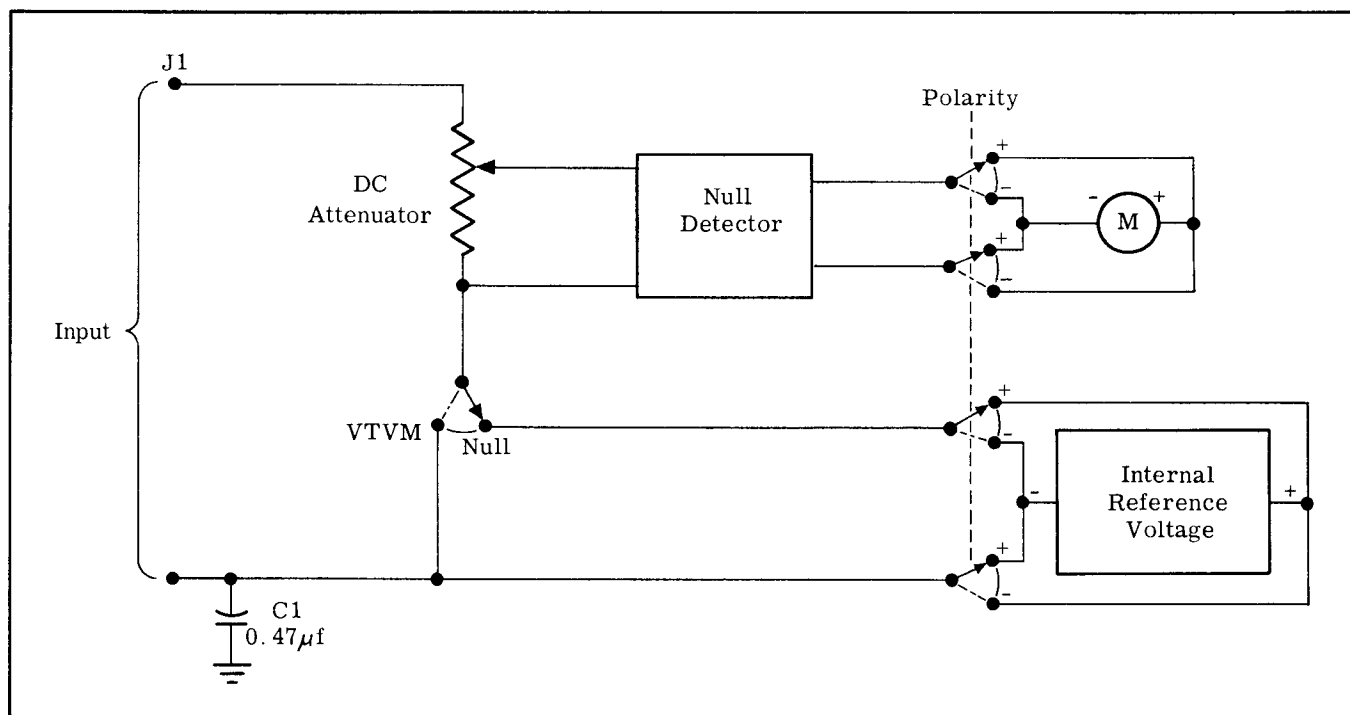

Figure 3-2. DC FUNCTION OF AC-DC POLARITY SWITCH
b. The AC - DC polarity switch may be set to either of two positions, positive or negative, for the DC mode of operation. As seen in figure 3-2, the AC - DC polarity switch does not just reverse the input posts when going from the positive to negative DC position. It reverses the meter and the internal reference supply. If the instrument did not contain positive and negative DC positions, the grounded side of any unknown voltage that is negative with respect to ground would have to be connected to the upper input binding post. This would ground the upper post and effectively place C1 (a 0.47 uf capacitor) across the input terminals. Even if C1 was disconnected, there would still be considerable capacitance